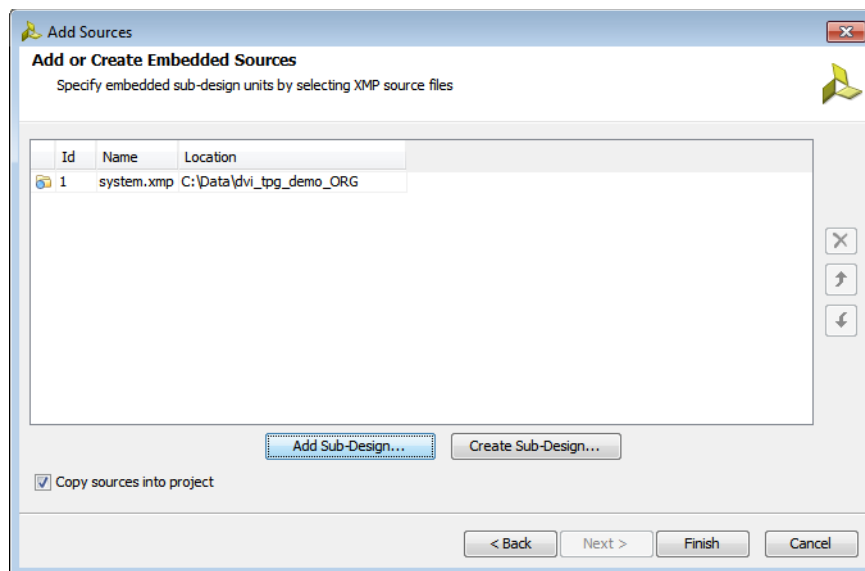

Figure 3-21: Add Sources Wizard—Add or Create Embedded Sources Page
3. In the Add or Create Embedded Sources page (Figure 3-21), set the following options, and click **Finish**.